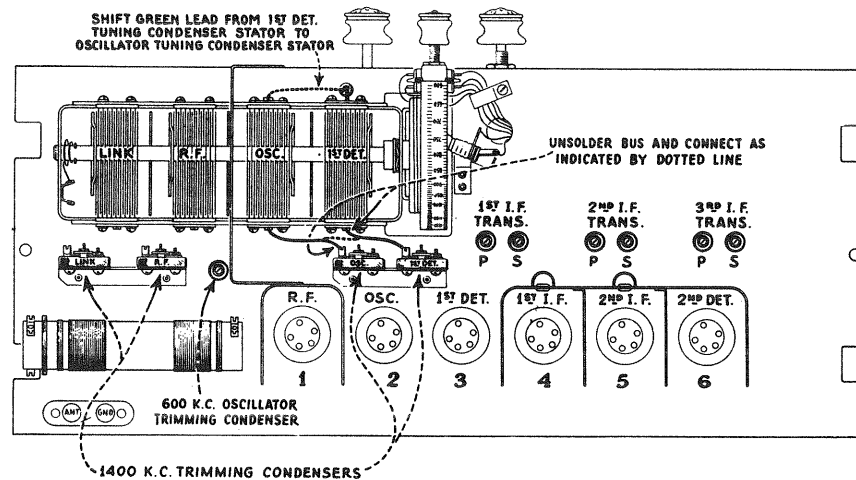

Figure 10—Top view of receiver assembly showing condenser adjustments
- (c) Locate the 600 K.C. trimming condenser (Figure 10), and turn the adjusting screw until it is about  $\frac{3}{4}$  of the way in. Set the "Local-Distant" switch at "Distant."
- (d) Set oscillator in operation at exactly 1400 K.C. Place the set in operation and tune in the signal. Make sure the receiver is properly grounded and has an average antenna. Adjust the volume control until a reading is obtained in the output meter. While making adjustments regulate the volume control so that an excessive reading is not obtained. Then adjust the selector knob until the scale reads 1400 K.C. Now adjust the oscillator, 1st detector, R.F. and link circuit trimming condensers (See Figure 10) in the order given until maximum output is obtained.
- (e) Set the oscillator at exactly 600 K.C. Tune in the signal on the set and adjust the 600 K.C. oscillator trimming condenser, Figure 10, for maximum output while rocking the gang condenser back and forth. The dial scale should read exactly 600 K.C. If it does not read 600 K.C. loosen the screws that hold the scale and slip it until it reads  $\frac{1}{2}$  the error from 600 K.C. on the opposite side of 600 K.C. For example, if the scale reads 620 K.C. at maximum output set the scale at 590 K.C. Another example would be if the scale read 580 K.C. to set it at 610 K.C.
- (e) Shift the coupling lead to the control grid connection of the second I.F. Radiotron (Socket No. 5). Adjust the volume control until a suitable reading is obtained in the output meter. Then adjust the secondary and the primary (See Figure 10) of the third I.F. transformer until a maximum reading is obtained in the output meter. After obtaining maximum output we know the two windings are closely adjusted to the same frequency. Now they must be readjusted until a flat top effect is obtained in the tuning curve. The flat portion should be at least 5 K.C. wide and generally will not exceed 7 K.C. in width. The method of doing this is to shift the oscillator frequency back and forth from 171 K.C. to 179 K.C. and noting, when the condensers are adjusted, that no appreciable change in output reading is obtained from 172.5 K.C. to 177.5 K.C. Also the drop in output should be the same at 171 K.C. and 179 K.C. This indicates that the flat top is centered at 175 K.C. The usual method to obtain this characteristic is, after adjusting to maximum output, to adjust the capacity of the secondary condenser until the flat top effect is obtained. It will probably not be centered at 175 K.C. It is, however, easy to shift its center point by increasing each condenser slightly to shift it to a lower frequency or decreasing both condensers slightly to increase its frequency. To make this adjustment the first time will be somewhat difficult, but after a little experience it is equally as easy as other super-heterodyne adjustments.
- (d) After aligning the link, R.F. and first detector circuit, the bus bar indicated in Figure 10 should be shifted to the position indicated by the dotted line and the black lead released from the oscillator tuning condenser stator. Allow this lead to remain free. Now shift the green lead from the stator of the first detector tuning condenser to the stator of the oscillator tuning condenser. This can best be done by using a clip and clamping on to a stator mounting screw of the oscillator tuning condenser. The vanes on the oscillator condenser may now be shifted for maximum output.